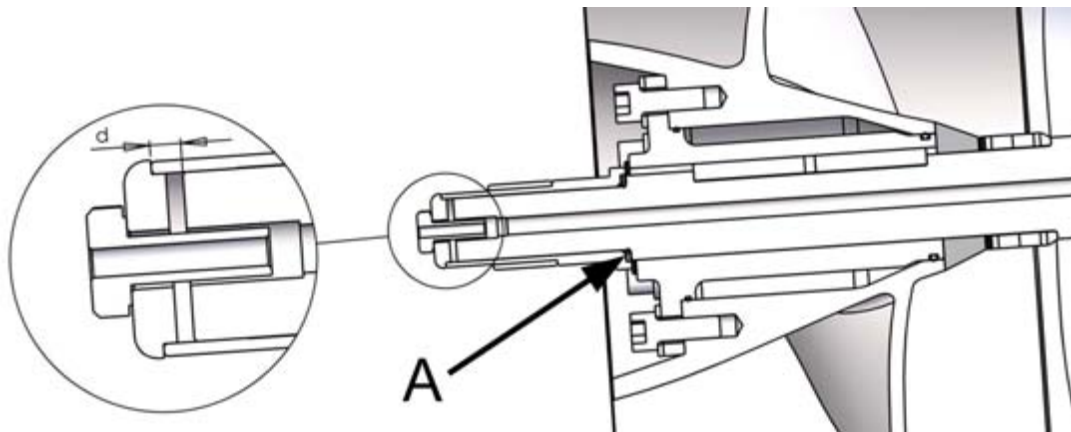

Figure 46. Checking the position of the sleeve
8. Place the o-ring on to the shaft against the shoulder (figure 46, point A) and the shim rings against the rear surface of the impeller.
You can check whether there is an adequate number of shim rings behind the impeller by measuring distance *d* from the end of the shaft to the rear end of the sleeve (figure 46). The correct distance is 3.5 mm.